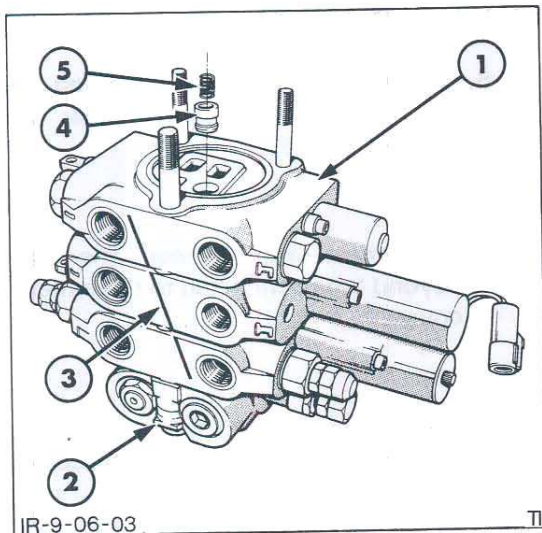

Figure 16
3. Separate the control valve by removing one section at a time, beginning with the outlet end cover. After removing a section remove the check valve spring and poppet, Figure 16. Place the sections on a clean surface in the order of removal.